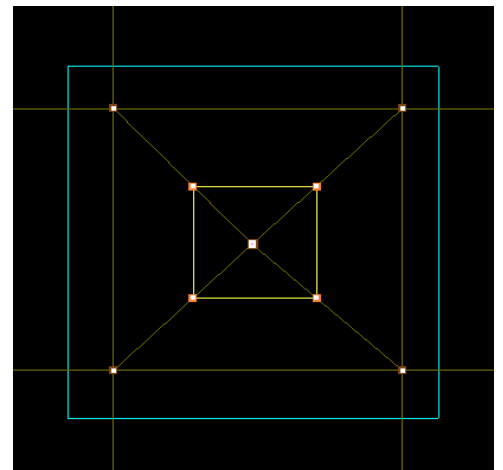

Figure 8.2
- Add the newly created corners in group 2 as shown in figure 8.2.